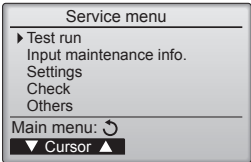

Fig. 6-4
- ③ Select "Test run" with the **[F1]** or **[F2]** button, and press the button. (Fig. 6-4)